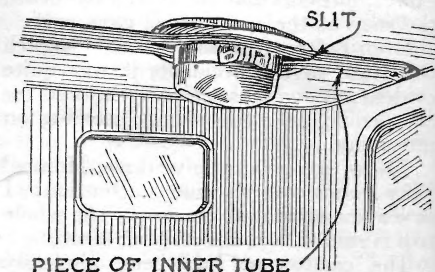

Fig. 4. A strip cut from an old inner tube can be made into a good hat holder as shown above. It will hold any type of hat without crushing it
**E**VEN in cool weather there are times when the occupants of a closed car desire to go without hats. This is particularly true during stormy weather when it is necessary to keep all windows closed. A simple holder that will keep any type of hat out of the way is shown in Fig. 4. A strip cut from an old inner tube is fastened to the top after a long slit has been cut down the center. There should be just enough tension to hold the hat in place without crushing. If desired, the hat holder can be stretched crosswise instead of lengthwise and two or more strips used instead of one, or it can be located on a side panel instead of the top.